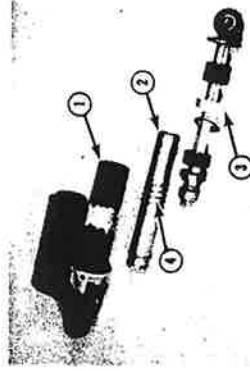

Fig. 3
9. Seal gap between filter base and air box with the same sealant. Apply a large quantity and work it in thoroughly by hand. (Figure 3)
7. Remove and discard cylinder (Ref. 2, Fig. 3).
9. Install replacement cylinder. Note location of coil spring around cylinder. This is an anti-foaming device and must be in place at the approximate center of cylinder (Ref. 4, Fig. 3).
10. Install replacement piston rod assembly. Check location of O-ring at base of rod nut. Piston seal is incorporated within rod nut (Ref. 3, Fig. 3).